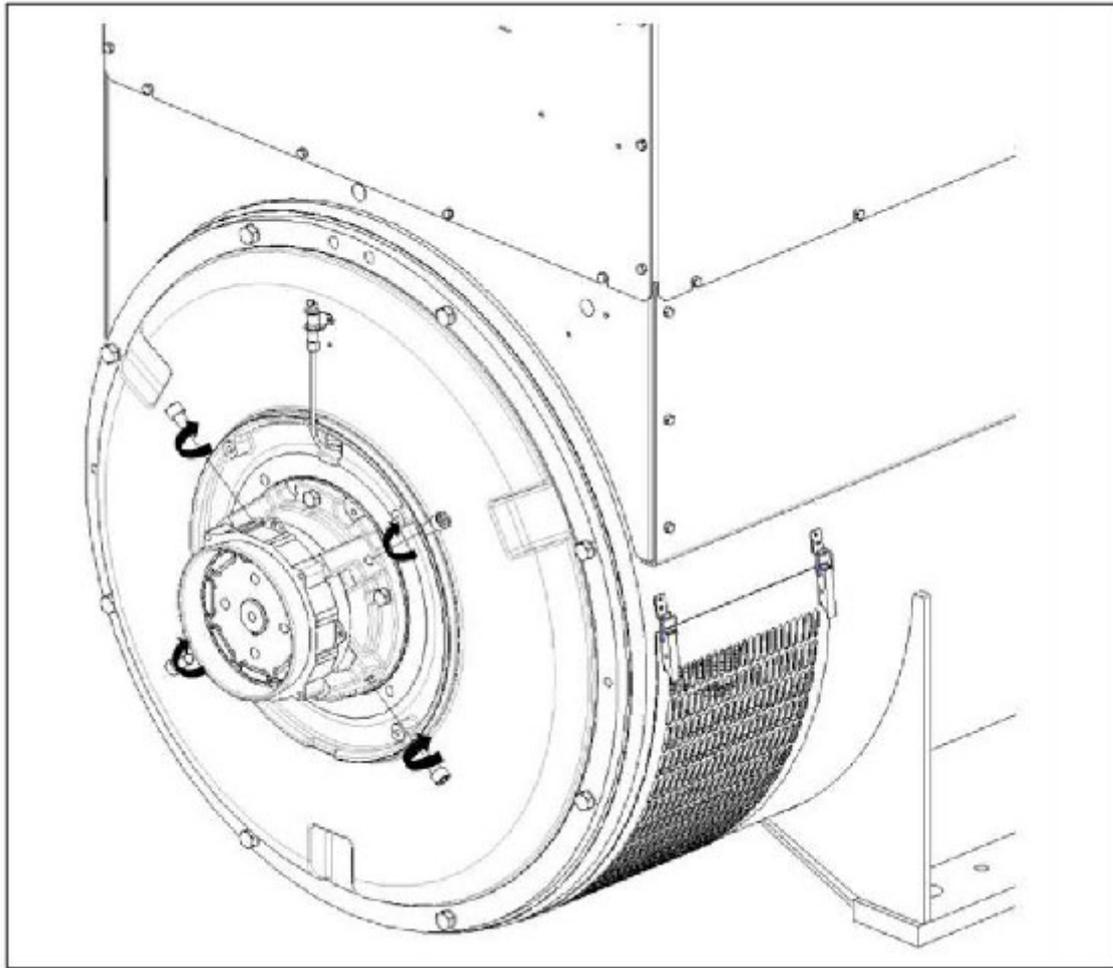

FIGURE 19. ROTOR TRANSIT SUPPORT SCREWS REMOVAL AND FITTING INSTRUCTIONS
4. Replace the transit support screws with the 4 accompanied blanking screws and tighten to 50 Nm. Refer to: Figure 19 on page 32.
2. Locate and remove the 4 blanking screws on the non-drive end bearing cap. Refer to: Figure 19 on page 32.